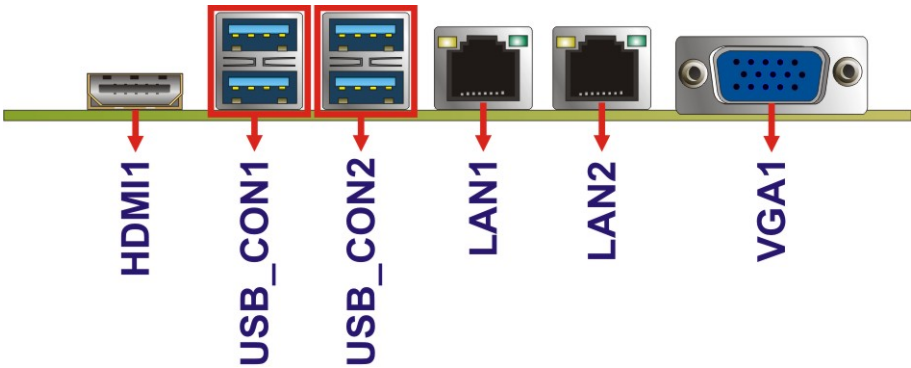

Figure 3-23: External Interface Connectors
- CN Location: See Figure 3-23
**CN Location:** See **Figure 3-23**
- CN Location:** See **Figure 3-23**